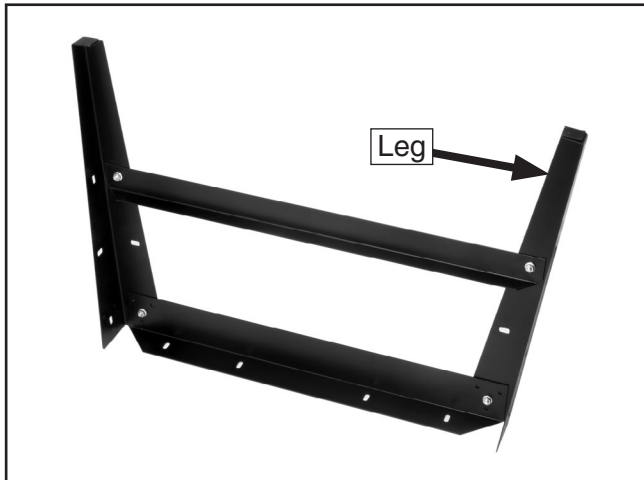

Figure 5. A completed stand leg assembly.
- Secure a second leg to the top and bottom long brackets with two M8-1.25 x 15 carriage bolts and serrated flange nuts as shown in **Figure 5**.